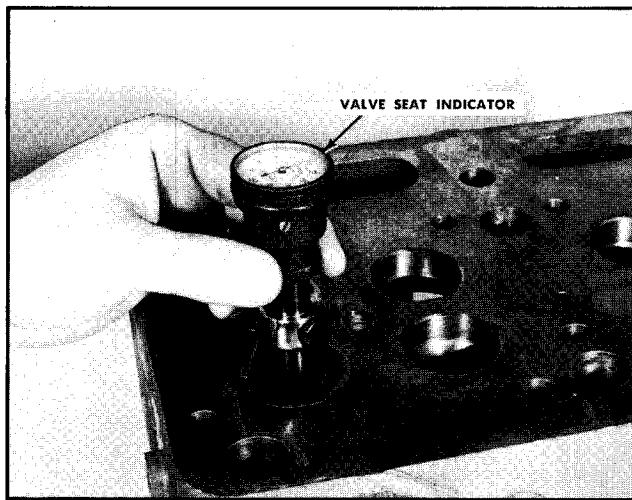

Fig. 3-16. Checking valve seat—JT head
7. Check guide alignment with eccentrimeter as shown in Fig. 3-16.